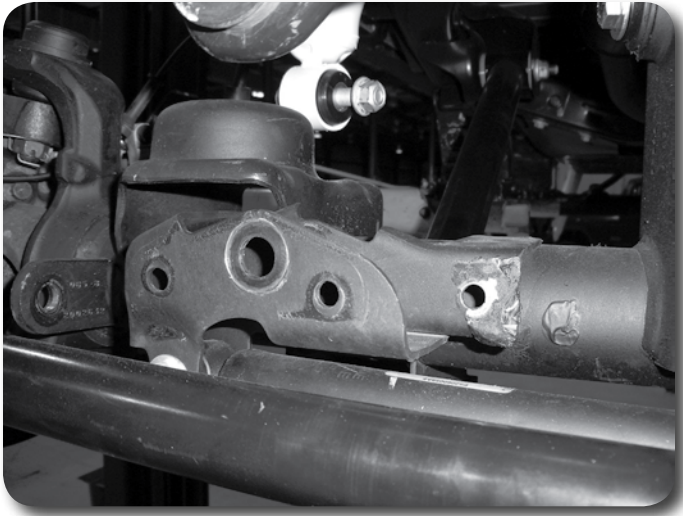

Figure 9
24. Locate the three small holes (one on the inside, two on the outside) in the factory bracket. Drill these holes out with a 7/16" drill bit to clear the new mounting hardware. **Figure 9**
25. Remove any paint, grease/dirt from the front edge of the passenger's side coil mount where the track bar bracket will be welded. **Figure 9**